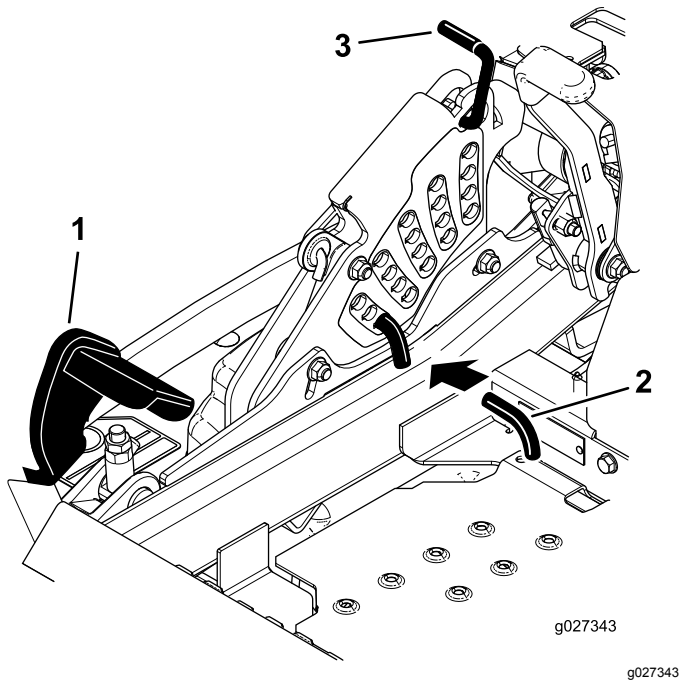

Figure 88
5. Push the deck-lift pedal all the way forward and the deck latches at the 14 cm (5-1/2 inches) transport position (Figure 88).